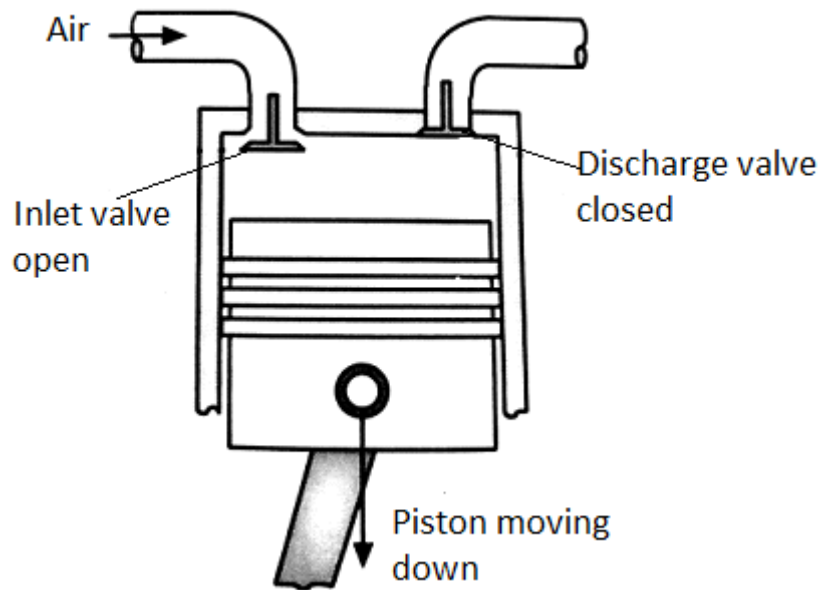

FIGURE 1
- 1.6 Look at the diagram shown in FIGURE 1 and answer the questions that follow next to the Question numbers (1.6.1–1.6.2) in the ANSWER BOOK.
- 1.6.1 Identify the type of compressor shown in FIGURE 1. (2)